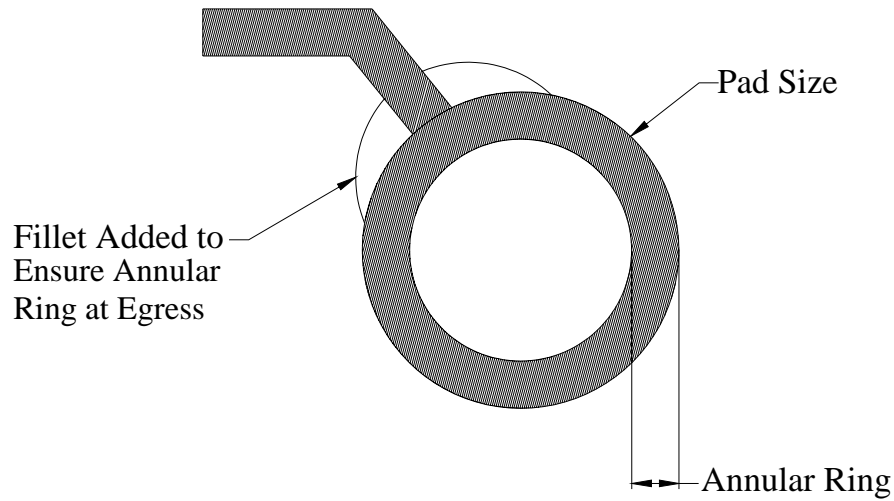

FIGURE 1, Preferred Fillet
- 3.2.2.2 Filleting of pads recommended (to be added by fabricator) for 0.000" annular ring, see figure 1.
3. See figure 1 for annular ring requirements.